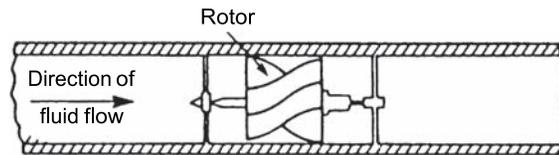

Figure 23.9
- (c) A **turbine flowmeter** contains in its construction a rotor to which blades are attached which spin at a velocity proportional to the velocity of the fluid which flows through the meter. A typical section through such a meter is shown in Figure 23.9. The number of revolutions made by